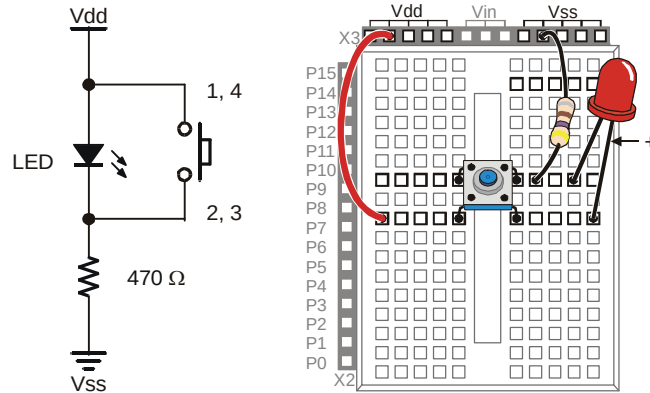

Figure 3-5
Figure 3-5 shows a circuit that will cause the LED to behave differently. When the button is not pressed, the LED stays on; when the button is pressed, the LED turns off. Since this pushbutton connects a conductor across terminals 1,4 and 2,3 when pressed, it means that electricity can take the path of least resistance through the pushbutton instead of through the LED. Unlike the potential short circuits discussed in the Warning Signs box, the short circuit the pressed pushbutton creates across the LED's terminals does not damage any circuits and serves a useful purpose.
- ✓ Build the circuit shown in Figure 3-5.